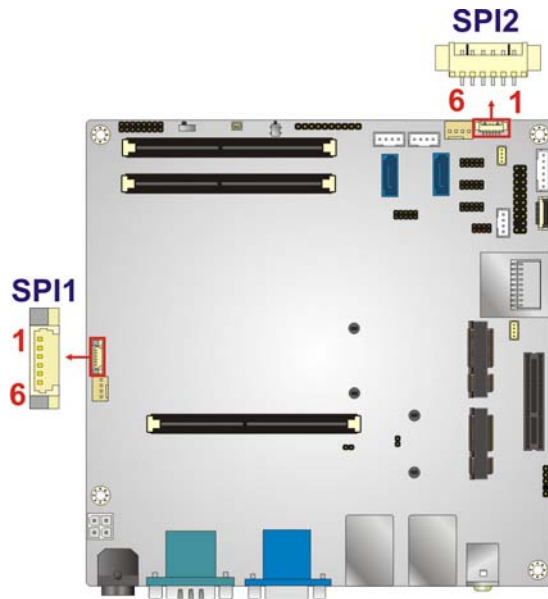

Figure 3-23: SPI Flash Connector Location
- CN Location: See **Figure 3-23**